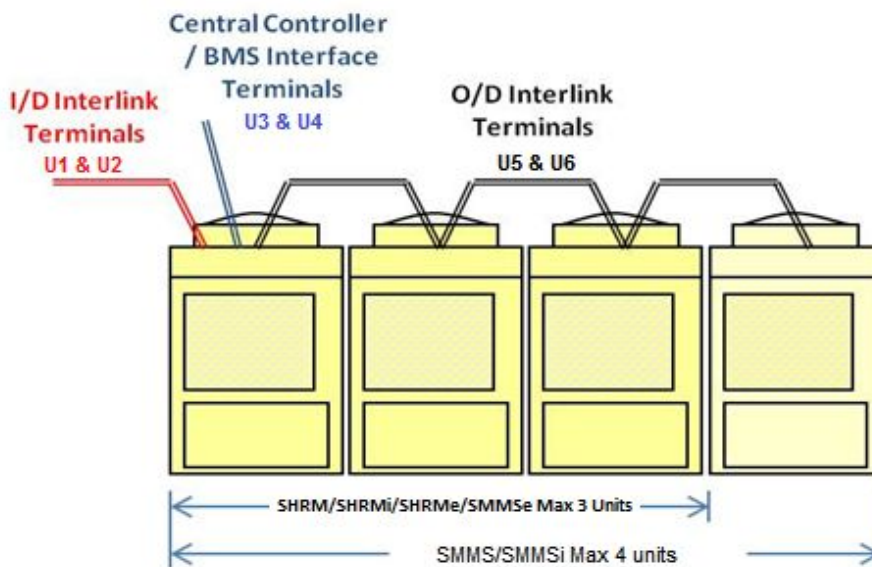

Fig 3
- 4) (Not applicable to Mini-SMMS/SMMSe), (Fig 3)
5) Indoor to outdoor connection, 1.5mm two core screened cable connected to terminals U1 & U2 of the LEAD outdoor unit and “daisy chained around ALL relevant indoor units, (Fig 3), *(To speed up commissioning, leave these terminals disconnected at the outdoor unit until all other works are complete. By these cores being disconnected premature addressing cannot be carried out, but the crankcase heaters can be operated, more on this later.)*
6) Central / BMS connections, 1.5mm two core screened cable connected to terminals U3 & U4 at each LEAD outdoor unit. (Fig 3)